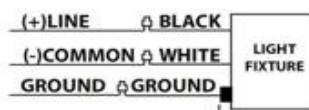

Fig.2
4. Complete the wiring to the power source and ground. (Fig. 2 & 3)
Universal voltage driver permits operation at 120V through 277V, 50/60Hz. Units ordered with (/480V) suffix are 480V, 60Hz. For non-dimming, follow the wiring directions in Fig 2.